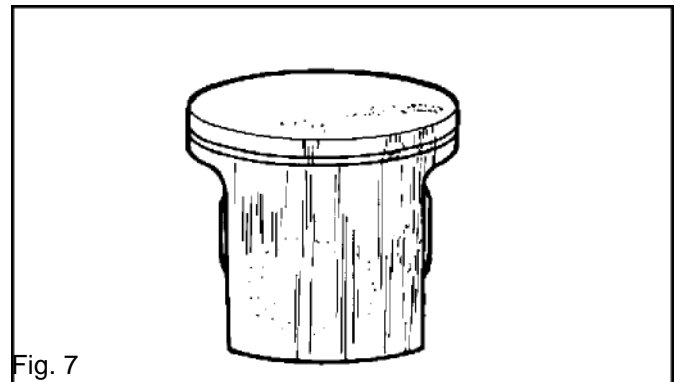

Fig. 7
11. Reconnect the fuel line (B) to the carburettor. See fig. 7.
12. Insert the throttle cable outer into its location and reconnect the throttle cable (A) to the carburettor. See fig. 7.
Carbon build-up. Fig 7.